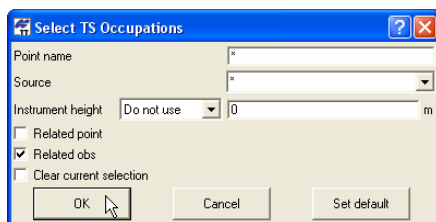

Figure 4-63. Select TS Occupations
On the *Select TS Occupations* dialog box, enter the following information and click **OK** (Figure 4-63 on page 4-64).
- Click **Set default** to apply the defaults shown in Figure 4-63.